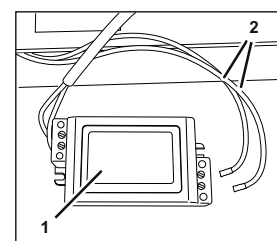

Fig. 35
1. Disconnect the electrical cables (cable no. 220112125) (Fig. 35/2) of the LED strip from the voltage transformer (Fig. 35/1).
9. Connect the electrical cables (cable no. 220112125) (Fig. 35/2) of the LED strip to the voltage transformer (Fig. 35/1).